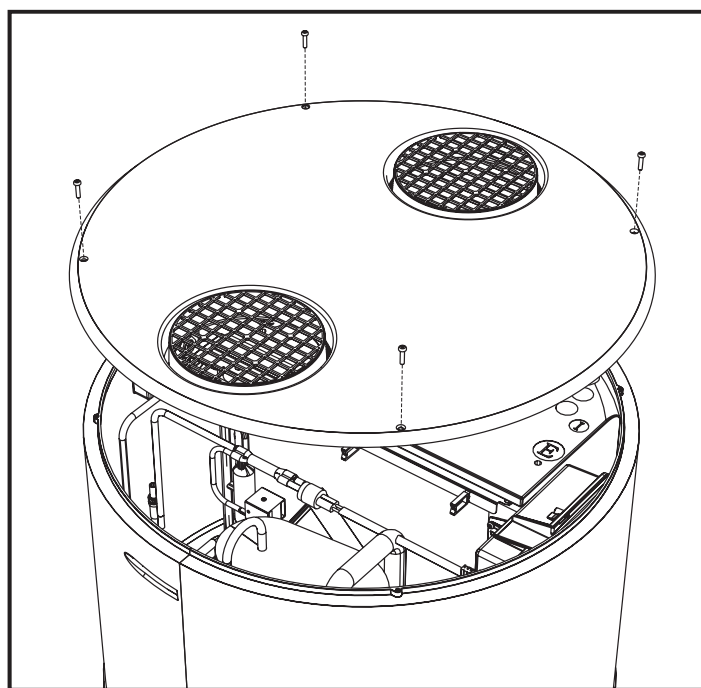

fig. 47- Top cover removal
- Remove the top cover by first undoing the locking screws (fig. 47).